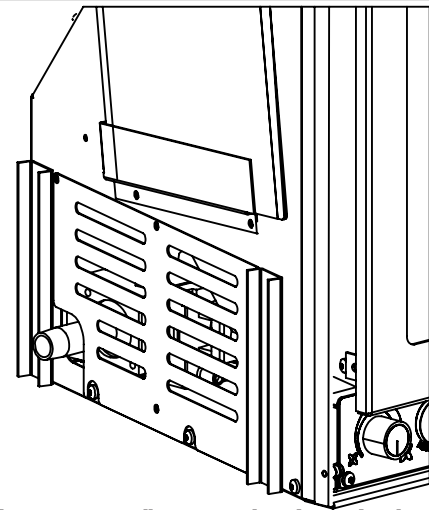

Figure 33: 3/8" NPT Male Pipe Nipple with Cover Attached.
- A 3/8" NPT male pipe nipple (supplied with the unit) will have to be turned into the valve at the lower left side rear of this fireplace (see Figures 33 and 34). Consult the local authorities for local codes or use the CAN/CGA B149 (1 or 2) installation code in Canada. In the US, gas installations follow either local codes or the current edition of the National Fuel Gas Code ANSI Z223.1.